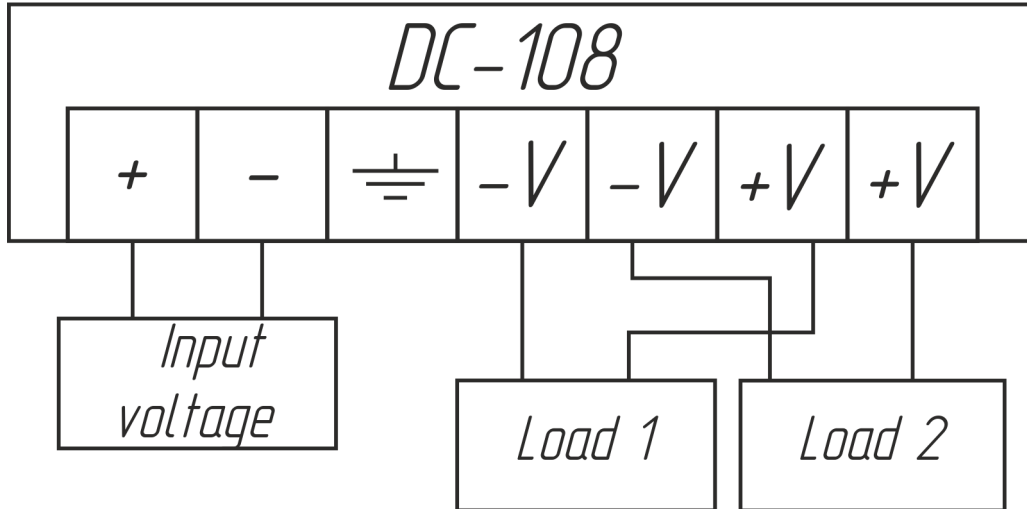

Figure 2 – The Product’s connection diagram
1.3.2 Power supply is connected to terminals “+” and “-”, loads are connected to terminals “-V” and “+V”, see Figure 2.